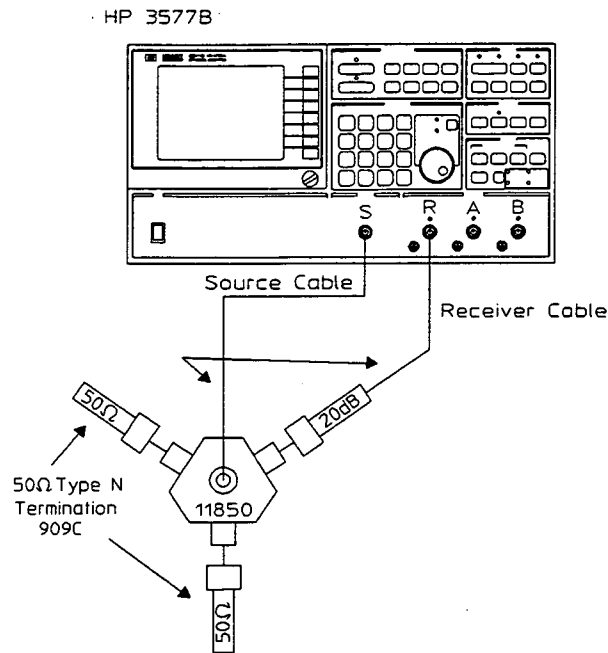

Figure 3-16. Source Flatness and Absolute Accuracy Test Set-Up
- s. Disconnect the EPM-1 (including the Error Correction Cable — remember to reinstall the factory installed jumper). Set up the equipment as shown in figure 3-16.